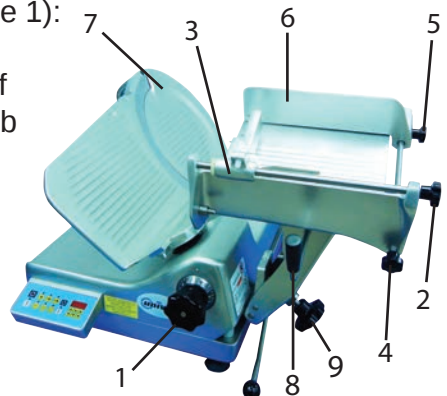
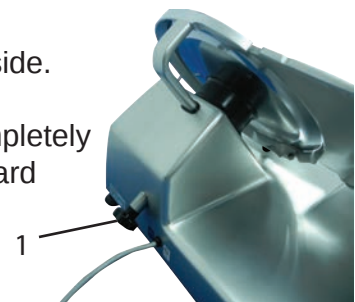

Figure 1
Figure 2
Warning: The protective guard (Overview [4]) covers the knife edge completely except at the forward edge where slicing will be performed. This forward edge is covered by the edge of the fence, but only when the slice adjustment is completely closed. The knife guard (Overview [6]) can be removed for cleaning by unscrewing the knife guard knob (refer to p.6 figure 2 [1]). For safety, keep the knife guard on at all times except when cleaning. Never operate the slicer with the knife guard removed.
1. Turn slice adjustment knob (Figure 1 [1]) to the fully closed position (beyond "0") so that the knife edge is not exposed. While holding the adjustment knob all the way closed loosen the carriage arm knob (Figure 1 [9]). The carriage may now be tilted away from the fence to the cleaning position. Note that while the carriage is tilted, the fence becomes locked in the cleaning position covering the forward portion of the knife.
2. Remove the following items to disassemble the slicer (Figure 1):
a. Slice Adjustment Knob: Remove screw located on front of Slice Adjustment Knob (Figure 1 [1]) and set aside. Pull knob forward to remove and set aside (Note the shaft is keyed to ensure correct alignment).
b. Last Slice Device Shaft: Unscrew knob and shaft (Figure 1 [2]) counter-clockwise from carriage and through Last Slice Device Figure 1 [3]) to remove and set aside.
c. Adjustment Spacer Shaft: First loosen Adjustment Spacer Knob (Figure 1 [5]). Now unscrew the Adjustment Spacer Shaft (Figure 1 [4]) counter-clockwise to remove and set aside. Adjustment Spacer (Figure 1 [6]) can now be removed and set aside.
d. Blade Guard: Loosen the Blade Guard Knob (Figure 2 [1]) completely and push it towards the blade to assist in removing the Blade Guard (Figure 1 [7]). Be careful when working around the blade edge.
e. Carriage Arm Handle: Loosen and remove the black handle (Figure 1 [8]) and set aside